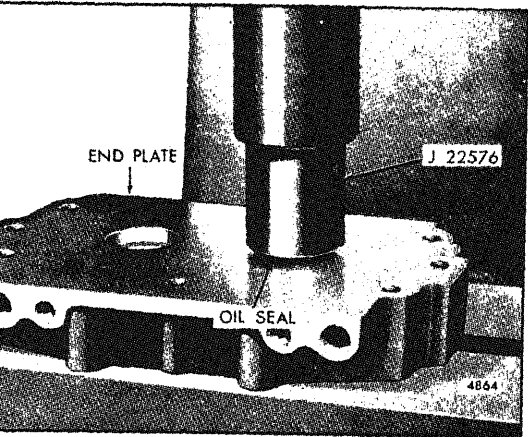

Fig. 9 - Installing Lip Type Oil Seal in End Plate
- b. Lubricate the outer diameter of the seal and, using installer J 22576, press the seal (lip facing down) into the counterbored hole until the shoulder of the installer contacts the end plate (Fig. 9).